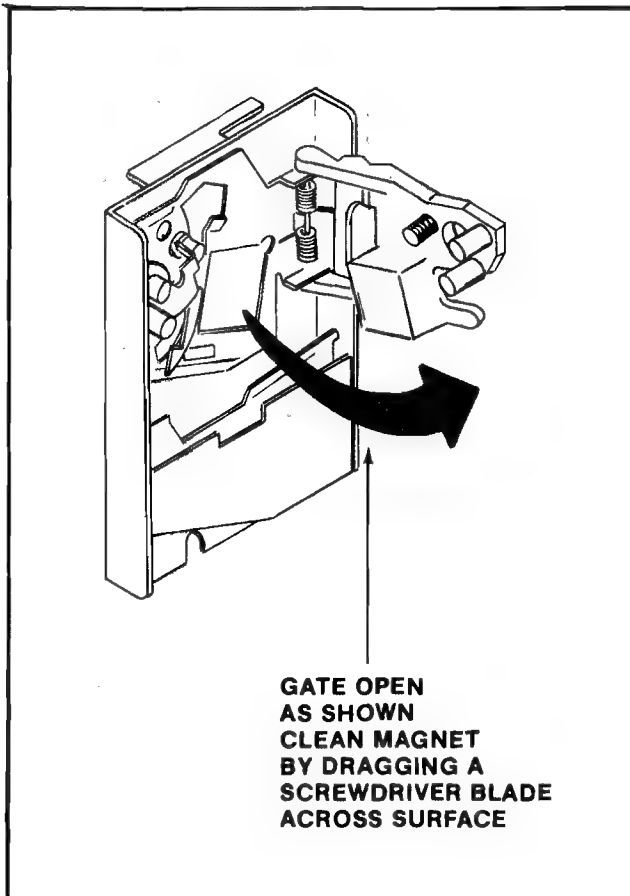

Figure 7-2 Cleaning the metal coin acceptor
4. Clean the magnet of all foreign particles. See Figure 7-2.